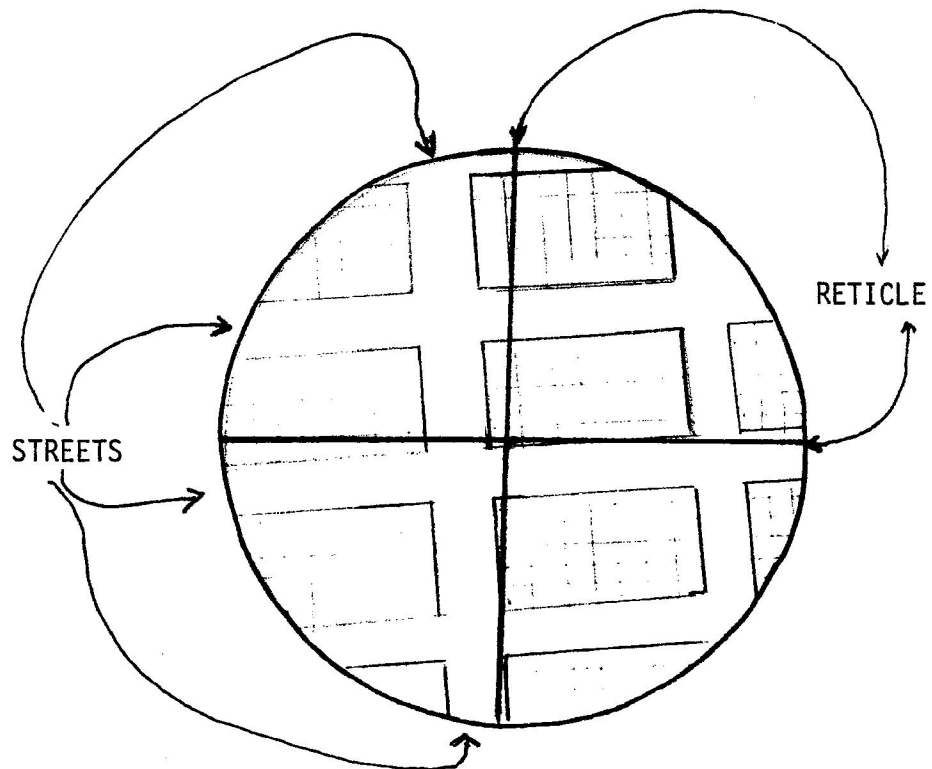

Figure 4-4 Wafer Misaligned in Y and Theta
- 7) Figure 4-4 is a sketch of a typical wafer as seen through the microscope. In figure 4-4 neither the Y axis nor the theta axis is aligned.